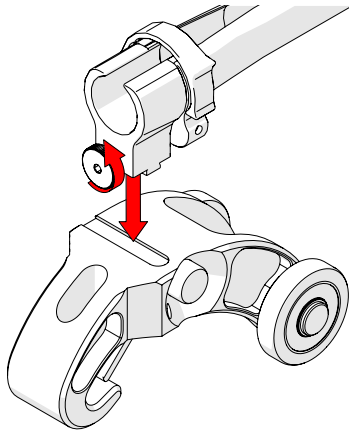

Fig. 71 - Loosen and slide on
1. Loosen the knob on the cable management dovetail mount. Position the mount onto the Dovetail QuickLink (Fig. 71).